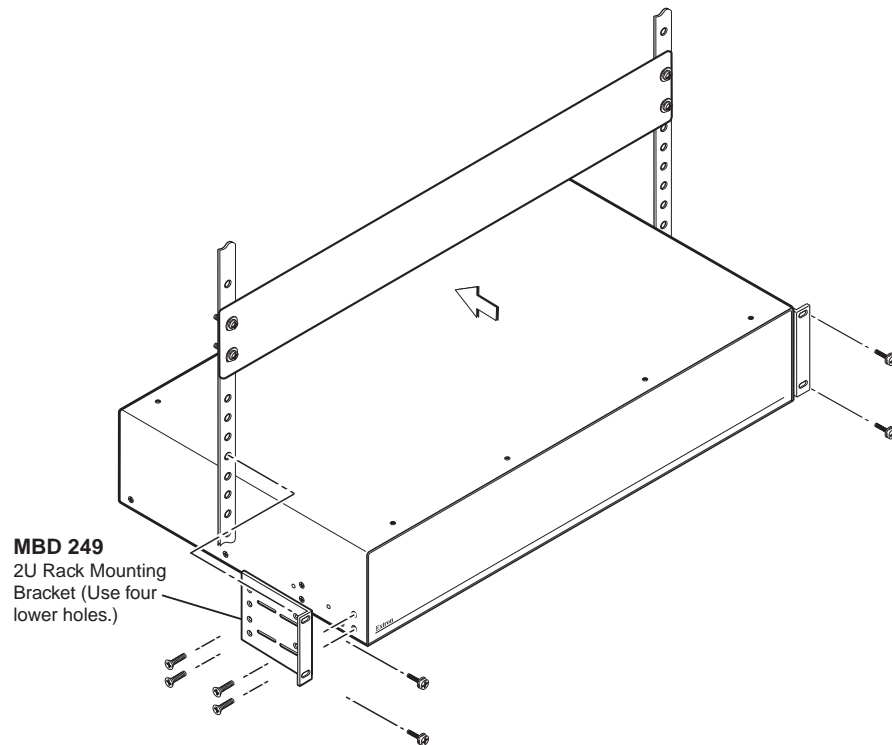

Figure 46. Rack Mounting an MGP Pro
1. Attach the included rack/through-desk mounting brackets to the unit, using eight of the machine screws supplied with the mounting kit (see figure 46).